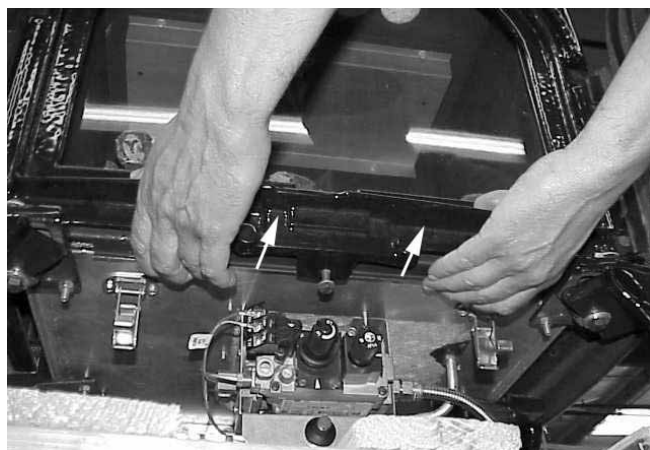

Figure 38
B. Reach under the bottom front of the front glass enclosure and pull it forward as shown in *Figure 38*.